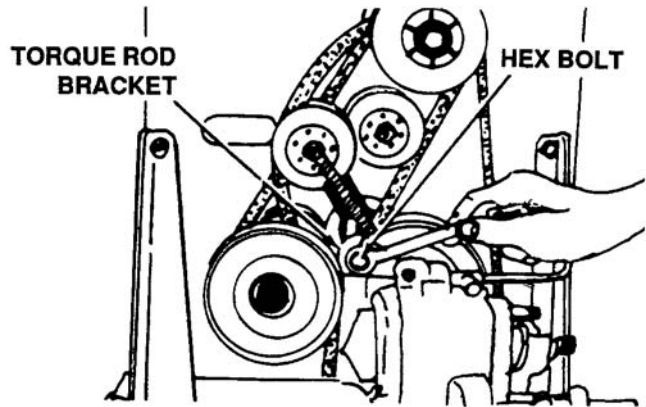

Figure 7-14. Location of Hex Bolt
- Remove the hex bolt which holds the torque rod bracket to the torque rod and remove bracket. See Figure 7-14.